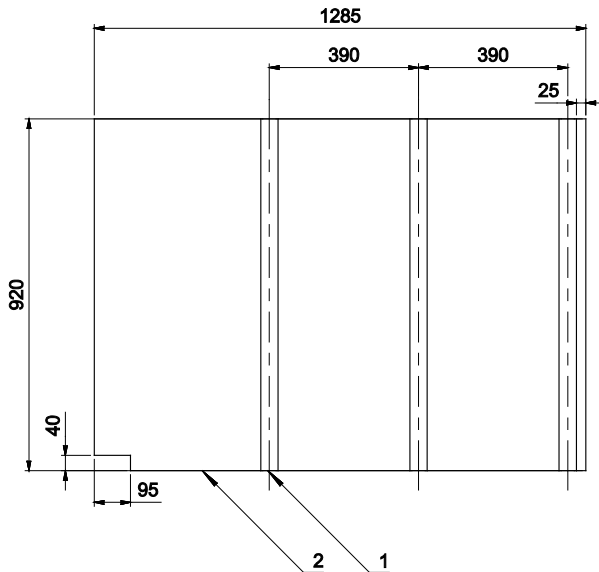

Figure 19. Dimensions for the concrete side board.
- 4.2 Cut twelve 70x45 wooden ribs to 920 mm in length and four pieces of 18 mm Formwork Plywood, complying with EN 636-3, to the format 1285x920 mm and cut out a notch in one corner as shown in Figure 19. Make four similar side board units according to these instructions, and then fix the ribs to the boards with wooden screws as in Figure 19.